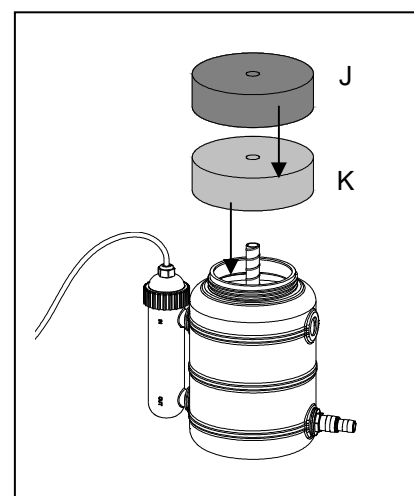

Fig. 3
3. Place the fine filter pad inside the tank. Then place the coarse filter pad over the fine filter pad. Fig. 3